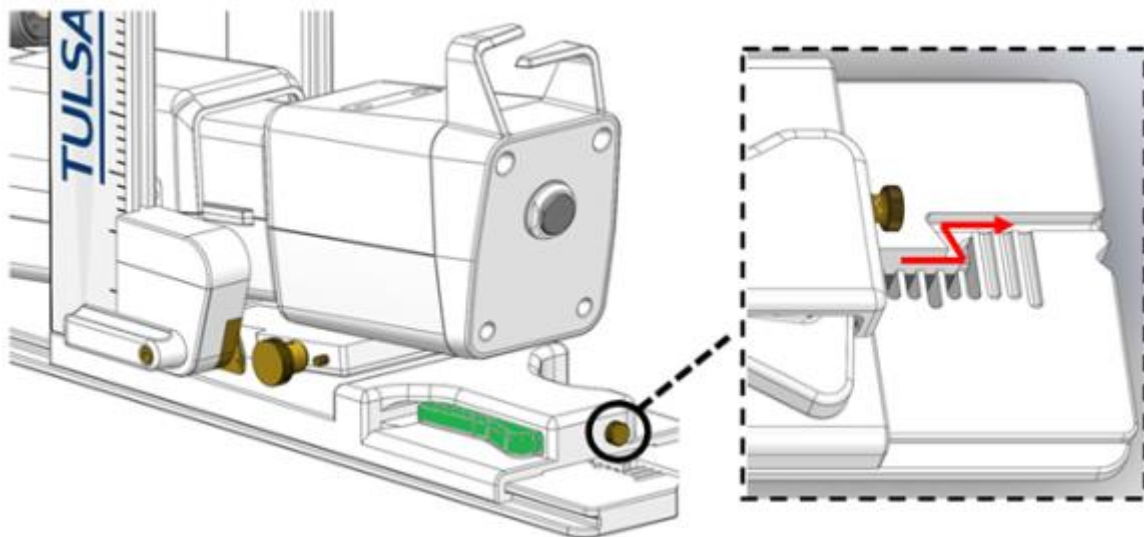

Figure 59: Removing PS from base plate
1. Remove the PS from its notched base plate by partially unscrewing the thumbscrew located on the rear of the PS base and depressing the horizontal adjustment lever through the Z channel at the rear of the PS base (*Figure 59*).